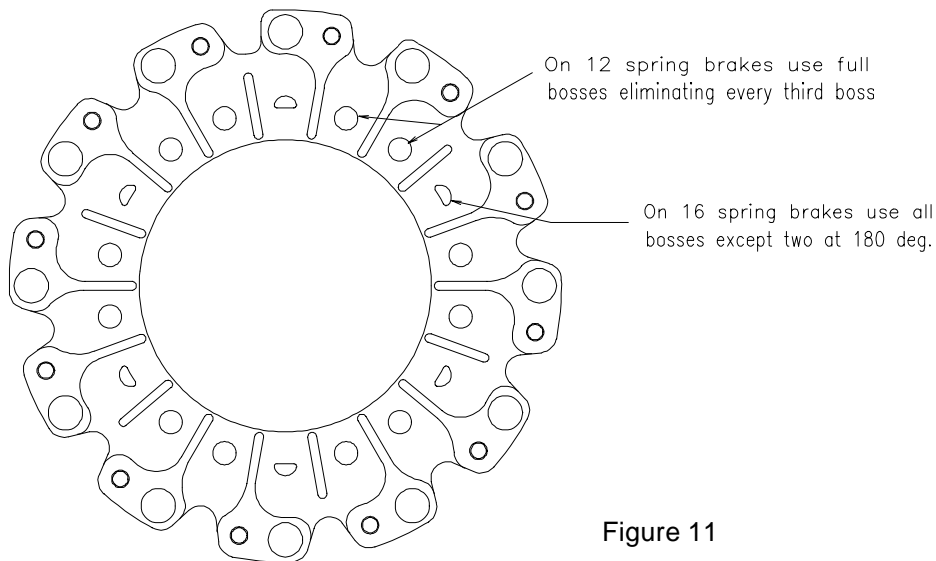

Figure 11
- 4.5.6 Place the springs into the pockets in the pressure plate per Figure 11.